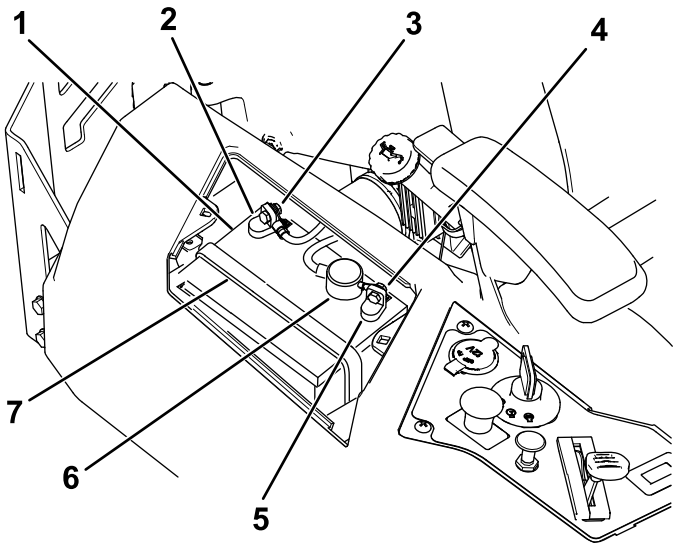

Figure 47
- 4. Disconnect the negative (black) ground cable from the battery post (Figure 47).
- 6. Disconnect the positive (red) cable from the battery post (Figure 47).
- 7. Remove the battery hold-down (Figure 47), and lift the battery from the battery tray.
- 1. Position the battery in the tray (Figure 47).
- 5. Secure the battery with the hold-down (Figure 47).